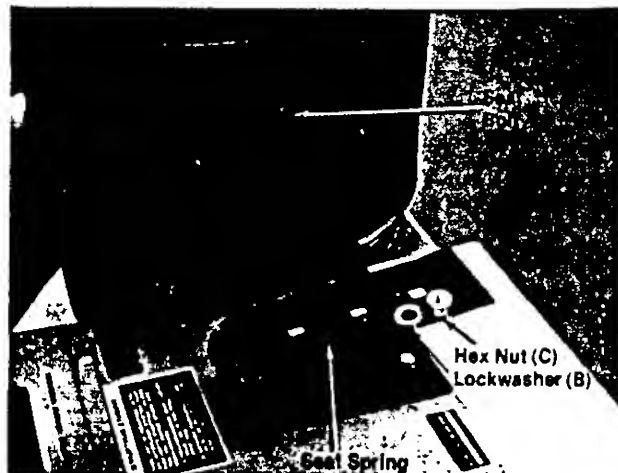

FIGURE 4. SEAT ASSEMBLY
Place seat on spring and secure with lockwasher (B) and hex nut (C). See figure 4.